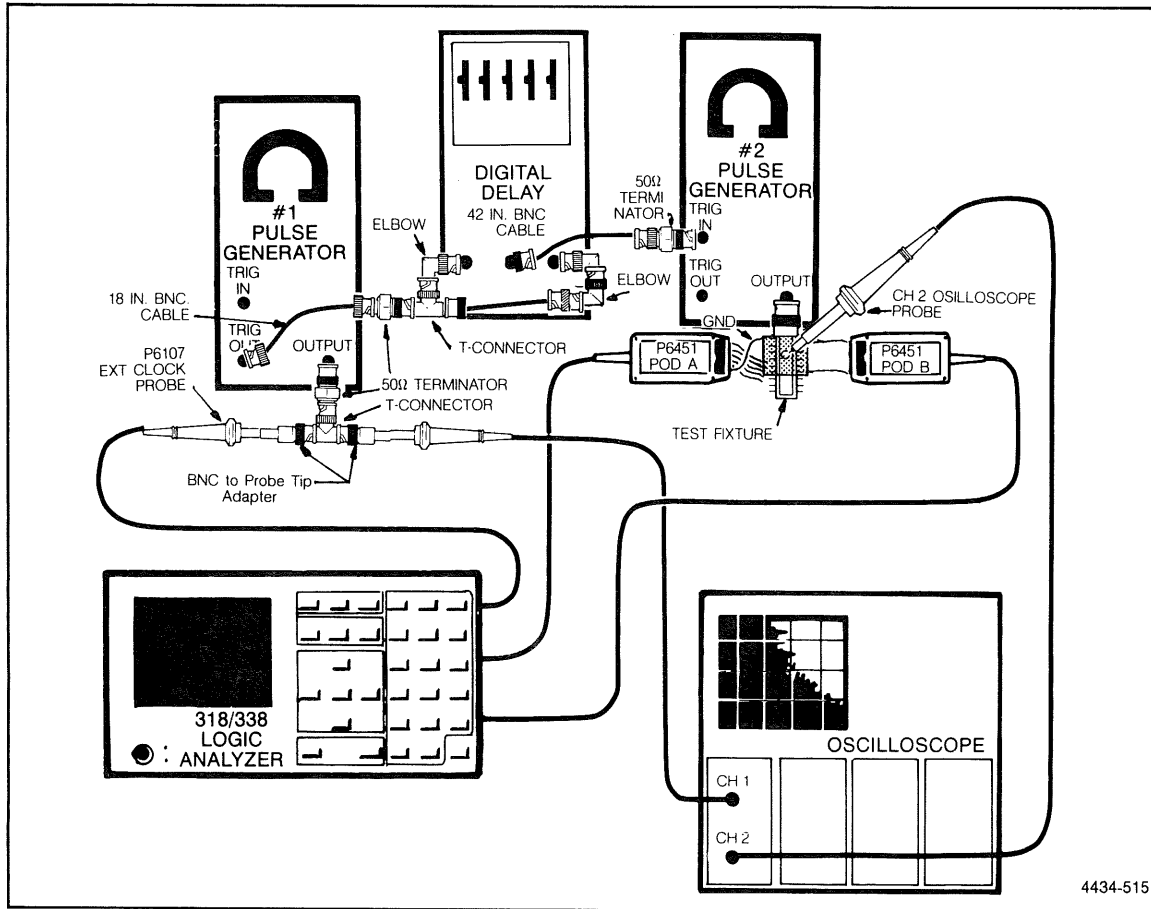

Figure 2-26. 318A Parallel data acquisition test setup.
Refer to Figure 2-26.
3. Connect a BNC elbow to the Digital Delay's EVENTS INPUT. Connect a BNC T-connector to the elbow. Connect one side of the T-connector to the #1 pulse generator's + TRIG OUT using an 18 inch BNC cable and a 50 Ω terminator. Connect the other side of the Digital Delay's BNC T-connector to the Digital Delay's START INPUT (see Figure 2-26). Using 2 BNC elbows and a BNC female-to-female connector will help here.